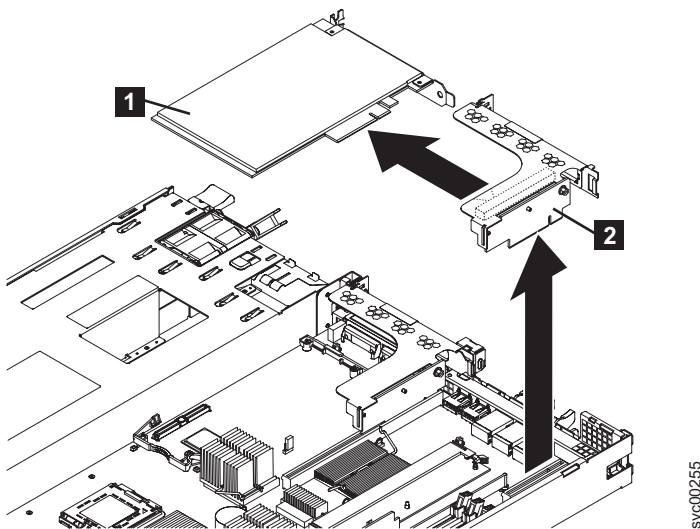

Figure 175. Removing the riser-card assembly from the SAN Volume Controller 2145-8G4
6. Grasp the riser-card assembly (2 in Figure 175) at the rear edge and lift to remove the riser-card assembly.